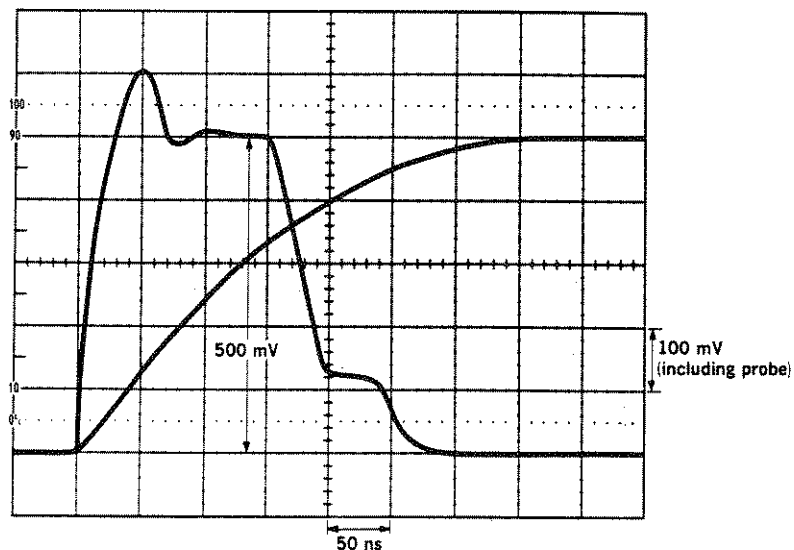

Figure 5-14. Check Stray Calibration Oscilloscope Trace
- STEP 19. Observe the waveform on the oscilloscope. There should be two pulses displayed, one for the Stress current and one for the Check current, as shown in Figure 5-14. The Stress current pulse should be about nine times as wide as the Check current pulse (because of the different voltages).